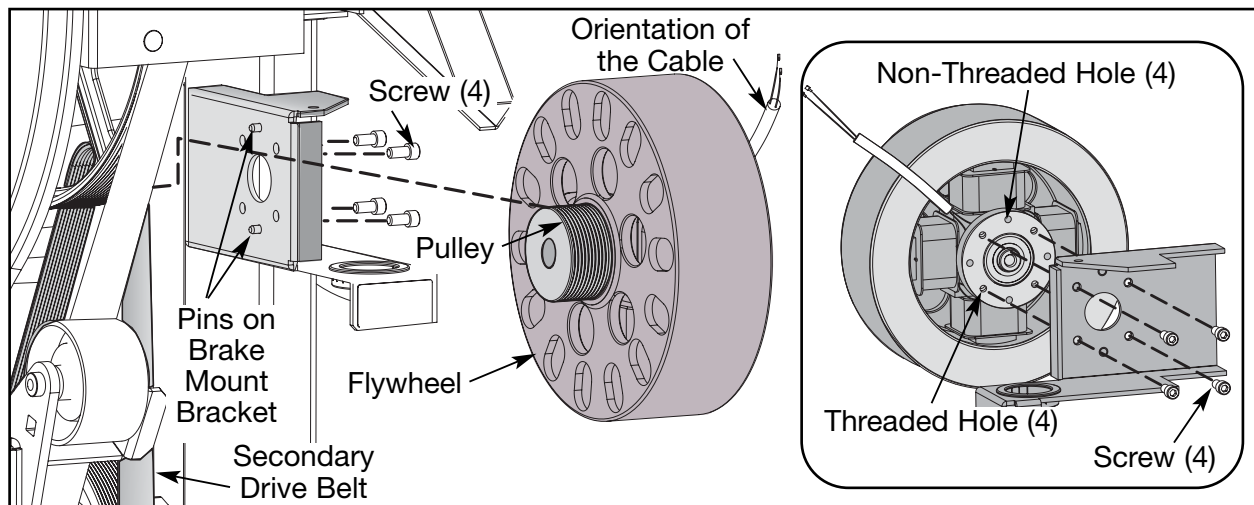

Figure 16
- A. Wear work gloves whenever handling the eddy current brake. The pulley is sharp. See Figure 16.
- C. Using a 3/16" hex key, first remove the two bottom screws securing the eddy current brake in place. See Figure 16.
- A. Locate the holes on the eddy current brake. Notice that there are four threaded holes and four non-threaded holes. See Figure 16.
- B. Locate the two pins on the brake mount bracket. See Figure 16.
- C. Orient the brake with the cable away from the unit. See Figure 16.
- G. Using a 3/16" hex key, first tighten the two top screws securing the eddy current brake. See Figure 16.